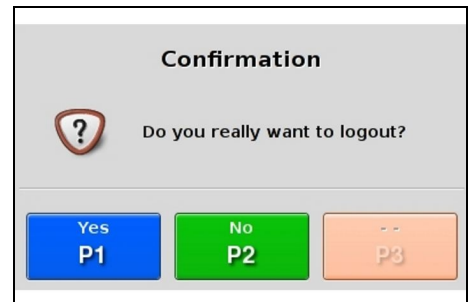

Fig. 23: Logout confirmation screen
- ▷ Use the navigator control on the keyboard (⌘ 12) to select the Logout menu item and confirm it by pressing **P1**. Choosing **P2** will bring you back to the main screen. The logout confirmation screen (see Fig. 23) is displayed.
- ▷ Press **P1** to confirm the logout process or **P2** to cancel it (see Fig. 23)